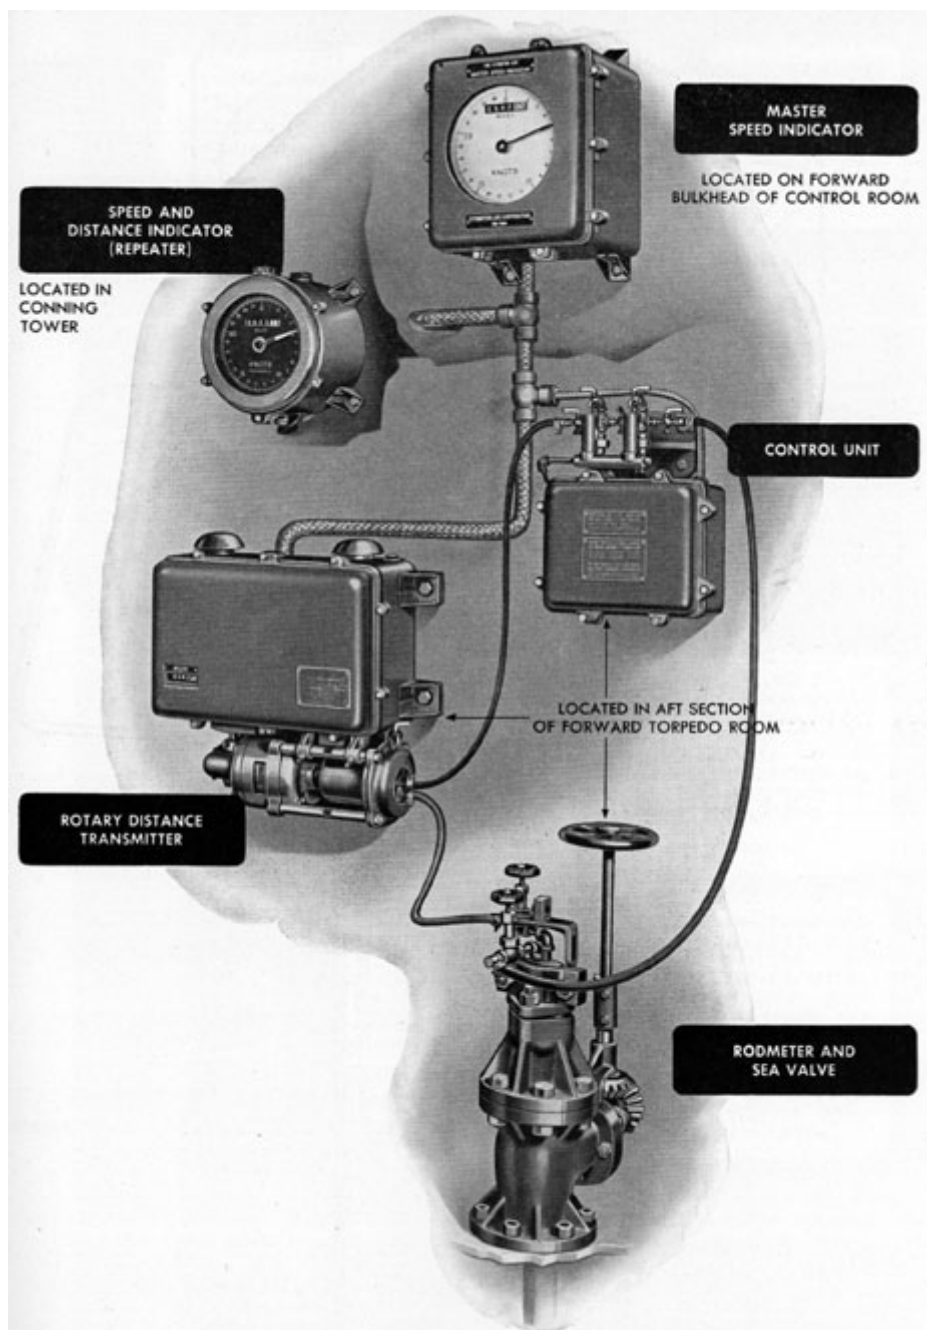

Figure 2-1. Components of Pitometer underwater log-rotary balance type.
**2A1. General.** The Pitometer underwater log, rotary balance type, is made by the Pitometer Log Corporation, New York, New York. This system, illustrated in Figure 2-1, consists of five major components. Each instrument is watertight, and is designed for either panel or bulkhead mounting.